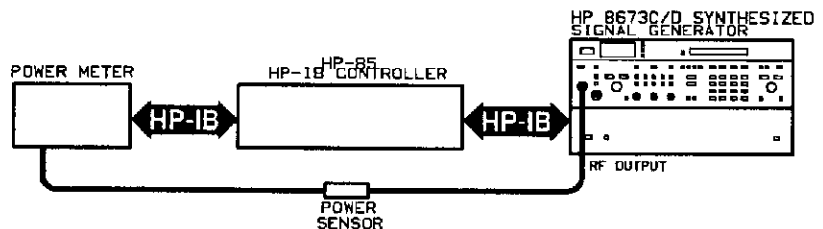

Figure 8-22. HP 8673C/D Power Output Test Setup
50. Connect the test equipment as shown in figure 8-22.